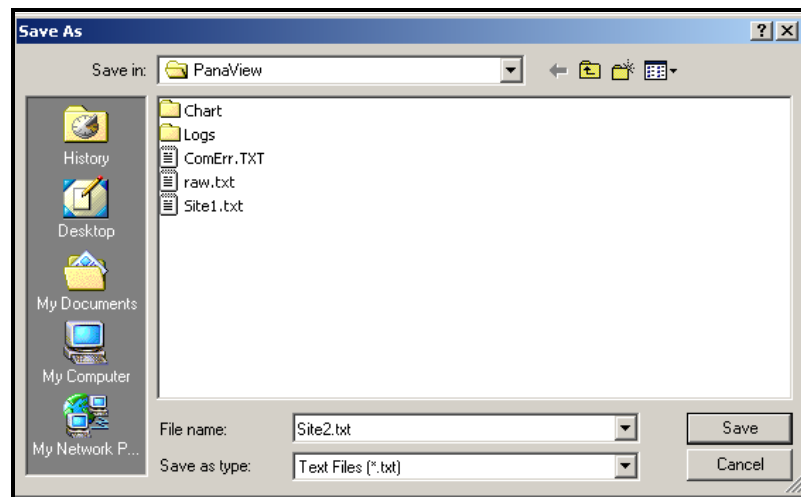

Figure 2-8: Save As Window
*Saving Transducer Signals* To save the raw signal, click on [Save]. A window opens similar to Figure 2-8 below. Enter the desired name, and click on [Save] to save the signal as a text file.